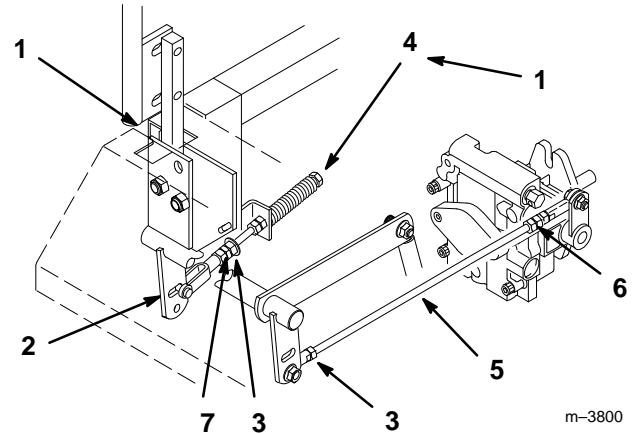

Figure 37
2. Begin with either the left or right motion control lever. Move lever to the neutral (but not locked) position and pull lever back until the clevis pin (on arm below pivot shaft) contacts the end of the slot (just beginning to put pressure on spring) (Fig. 37).
3. Check where lever is relative to notch in console (should be centered allowing lever to pivot outward to the neutral lock position) (Fig. 37).
4. Loosen locknut at ball joint on pump control rod (Fig. 37).
6. Adjust pump rod length by rotating double nuts on rod, in the appropriate direction, until wheel is still or slightly creeps in reverse (Fig. 37).